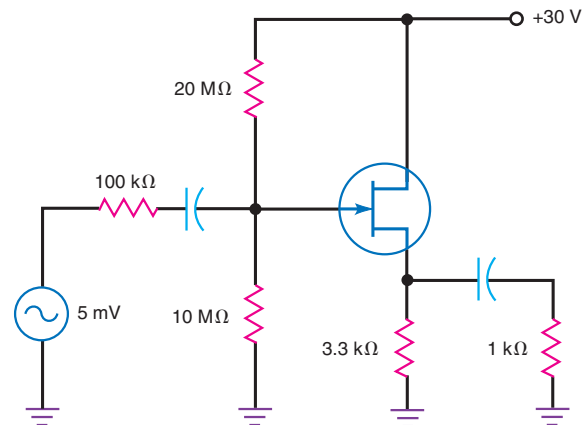

Figure 32-54
- 32.15** If the source follower of Fig. 32-54 has $g_m = 2000$ μ S, what is the ac output voltage?